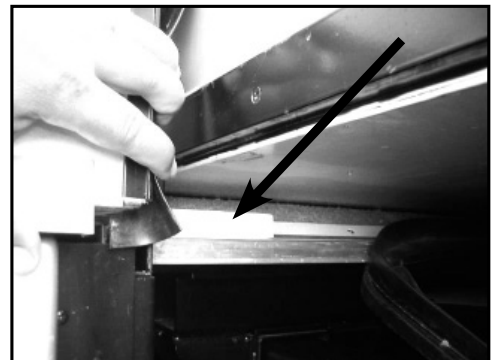

Figure 5
10. Place two 10-24 X 1" Flat Head Phillips Screws, #500822, into each Lift Block and position over the drilled holes until the screws pass through the aluminum slip plate and the top of the steel tube. Install the Lift Blocks with the radius corners up. See Figures 5 and 6.